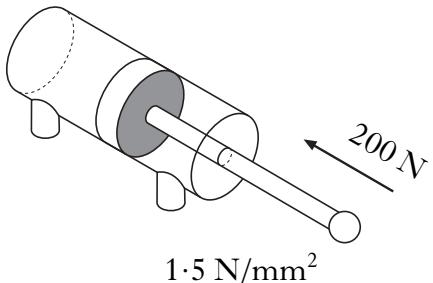

Figure Q9(c)
- (i) the effective area of the piston in the cylinder shown in Figure Q9(c) as it strokes with a force of 200 N and is supplied with an air pressure of  $1.5 \text{ N/mm}^2$ ;